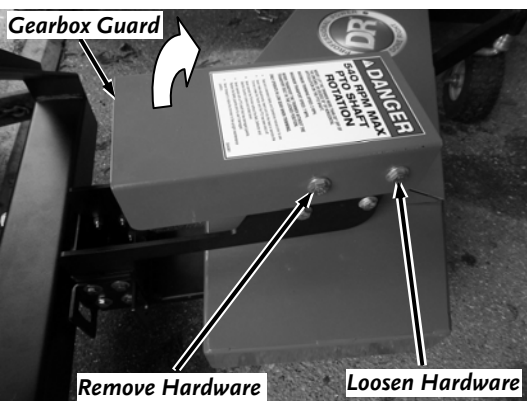

Figure 40
1. Remove the front Bolt, Washers and Locknut from the Gearbox Guard with two 11/16" Wrenches (Figure 40).